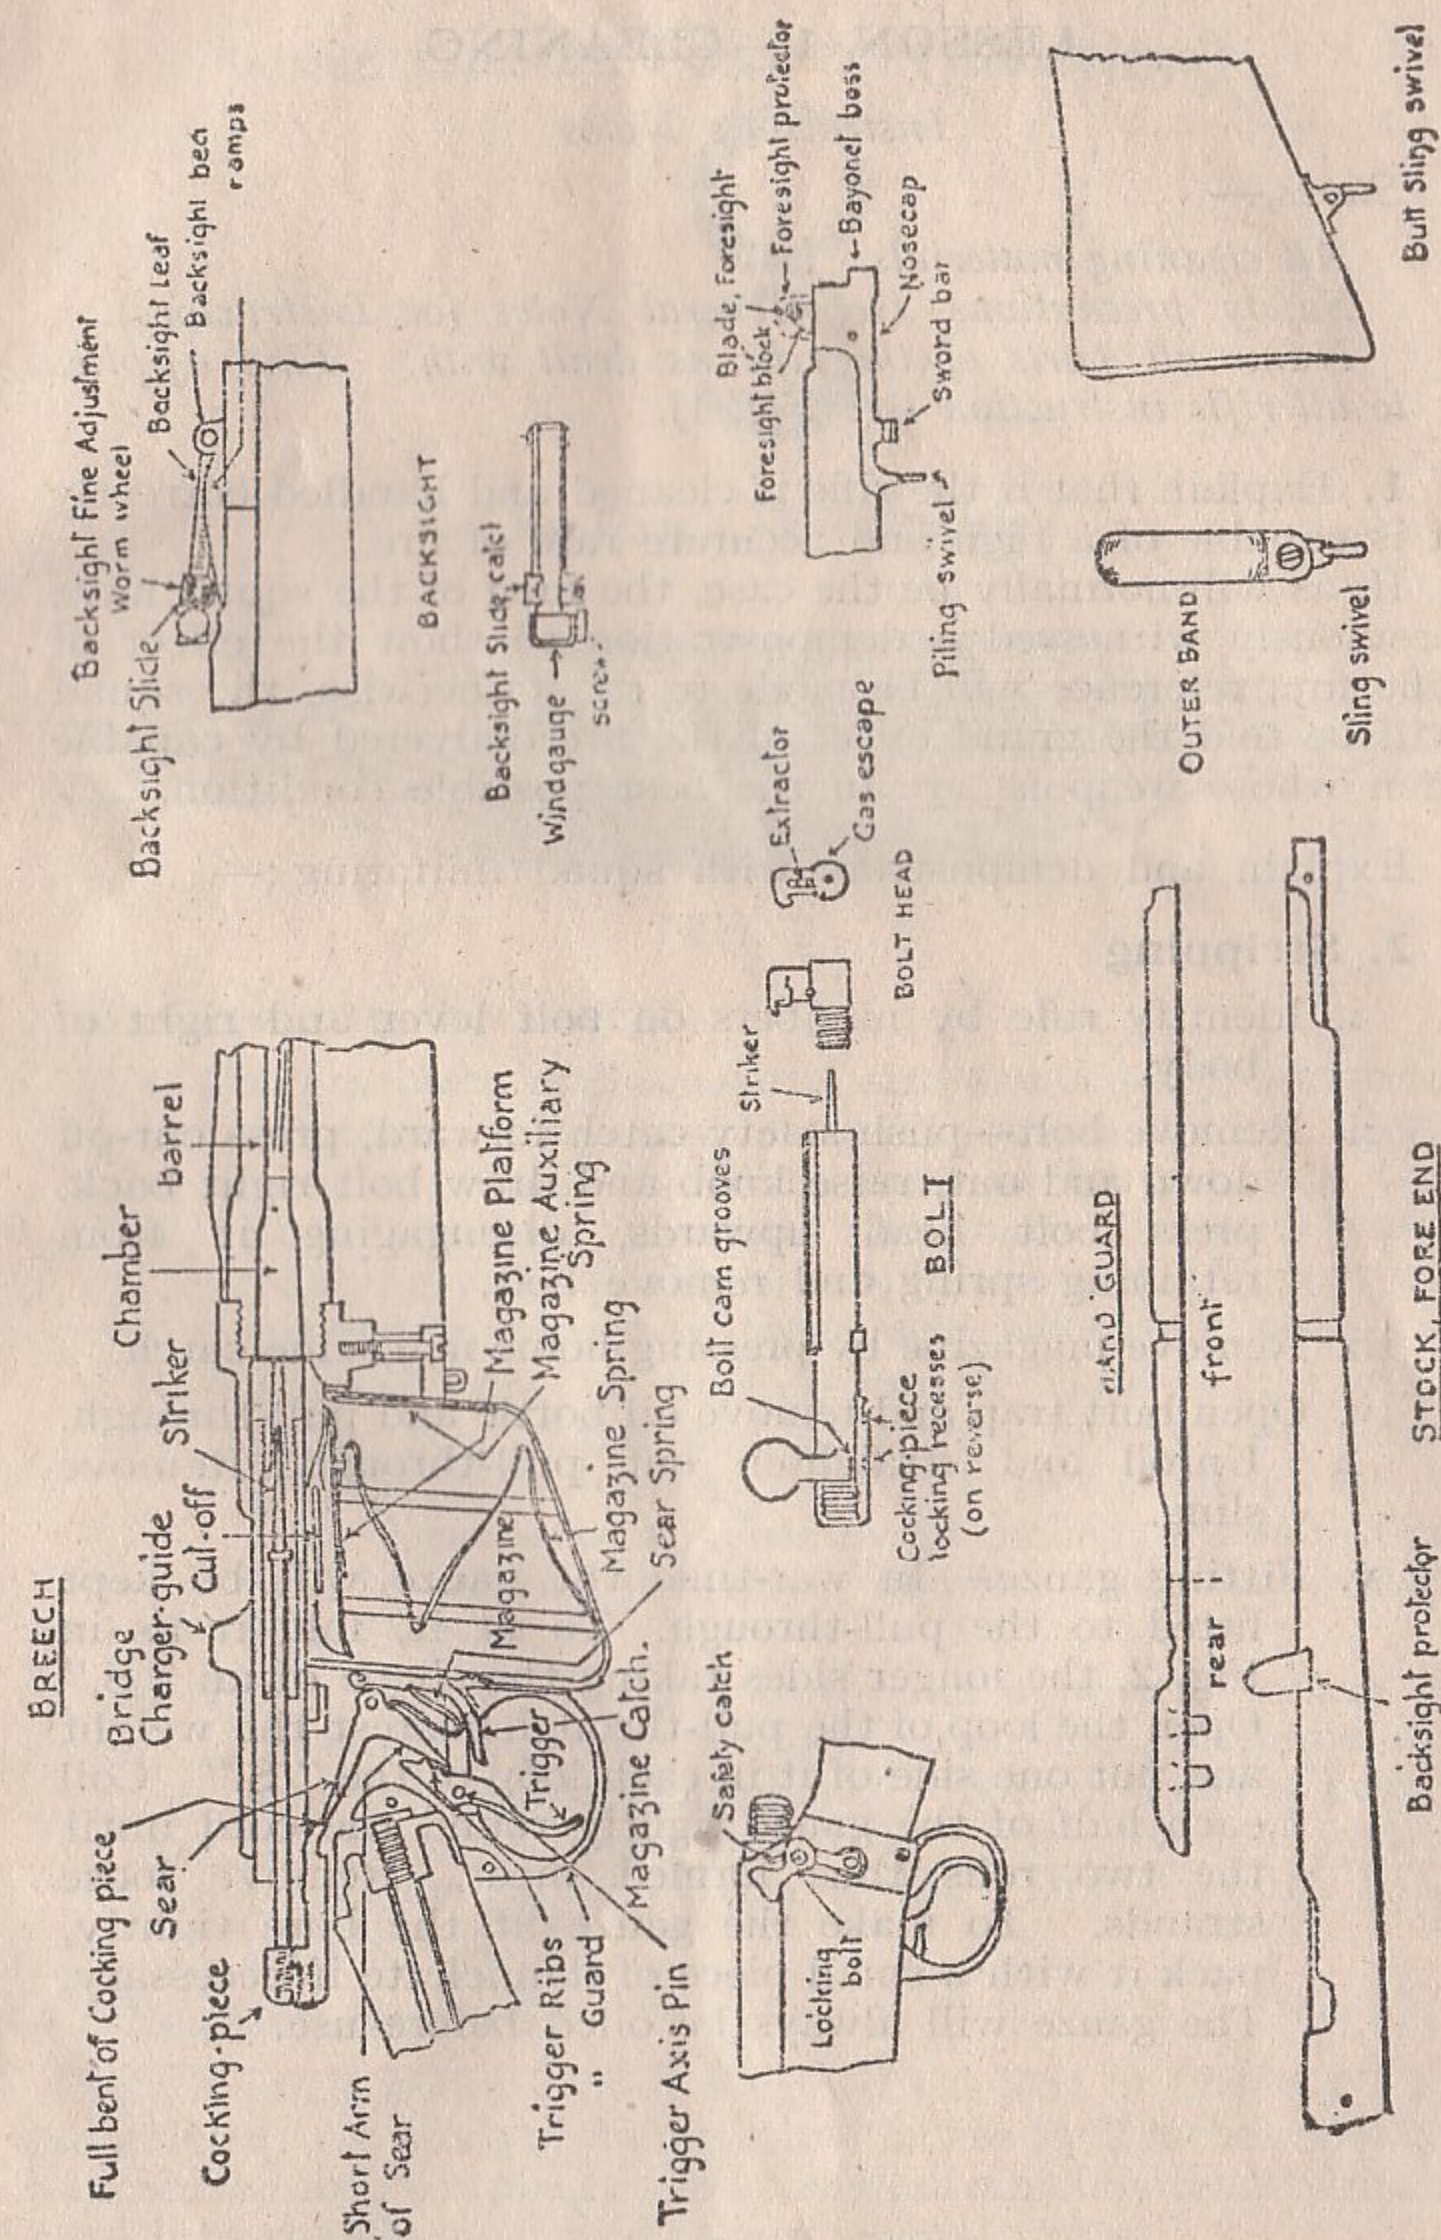

Fig. 1
*Instructor's Notes**Stores.—**All cleaning materials.**Safety precautions (see General Notes for Instructors).**Name all parts of the rifle as dealt with. This applies to all rifle instruction (see Fig. 1).*